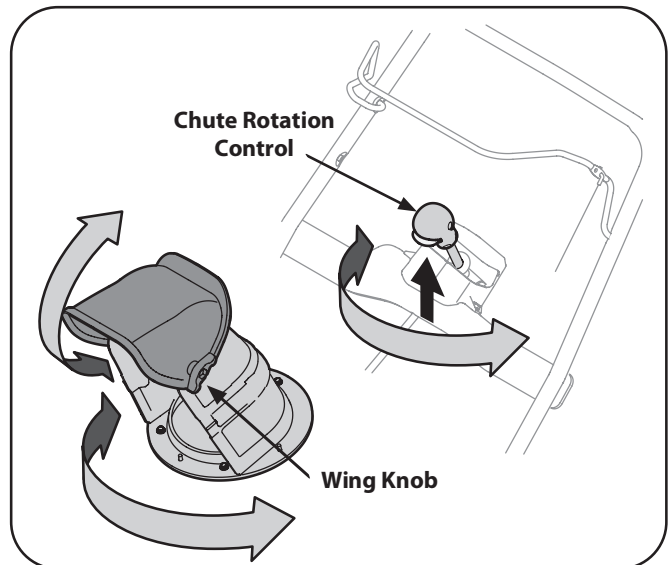

Figure 5-2
1. Rotate the discharge chute to the left or right using the chute rotation control. See Fig. 5-2.